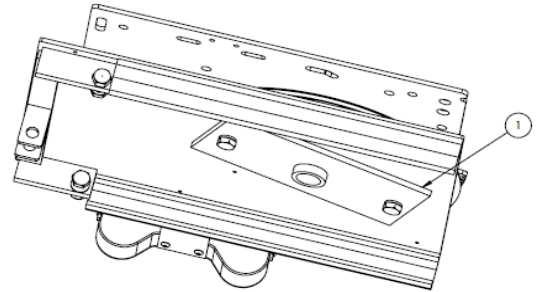

Figure 1.3
- 3.) Locate the swivel gear retention plate (SEE: #1 in Figure 1.3). Remove the P-clamp holding the wiring and (2) 10mm bolts in the plate.